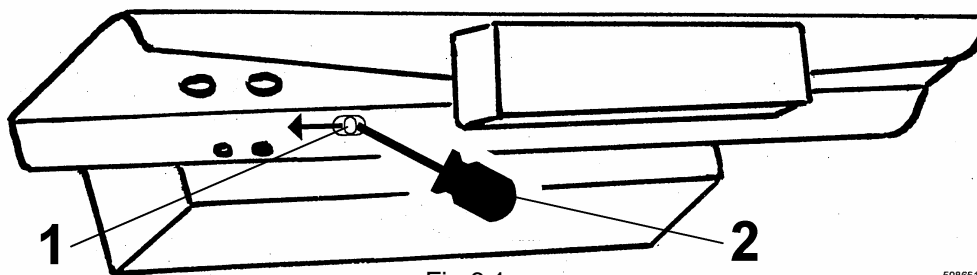

Fig.6.1.
2. After machine cooling down insert suitable device (wire, screw driver), fig.6.1, pos.2 into the left hole (1) under washer door and remove locking pawl to the left.